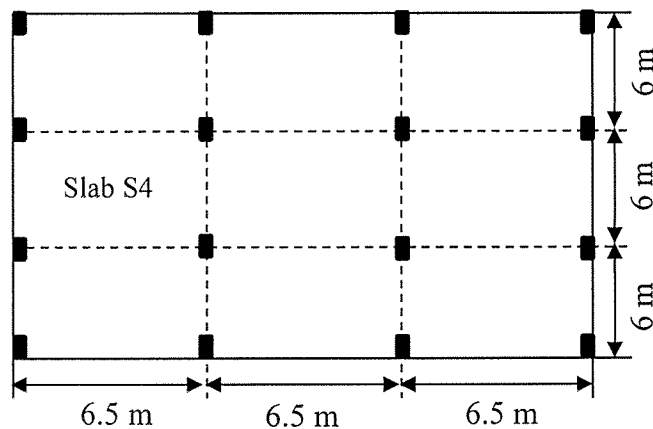

Figure 1. Flat slab floor plan
- a. A car park of a residential building is constructed with **flat slab** as shown in **Figure 1**. Live load of car park is 2 kN/m^2 . Thickness of slab could be considered as 200 mm. The concrete strength (f_c') is 24 N/mm^2 and column size is 600 mm x 600 mm. Positive and negative moment coefficients of the panel are 0.35 and 0.65, respectively. Design the **Slab S4** for **short span column strip** only.